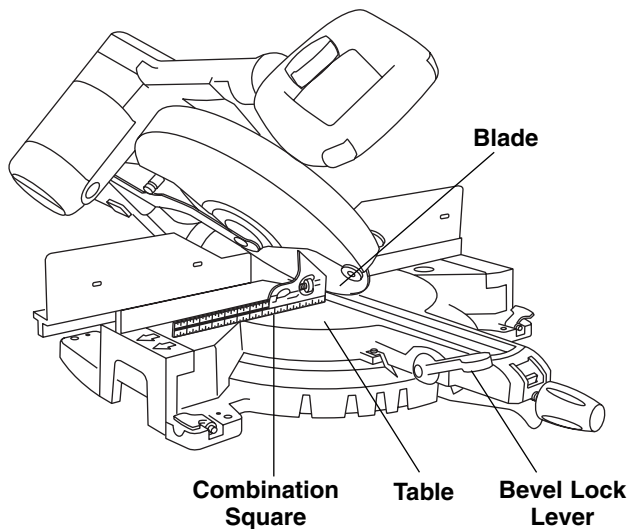

Figure 7. Blade 45° To The Table
3. Place combination square frame (remove ruler) with 45 side against the blade. (See figure 7)